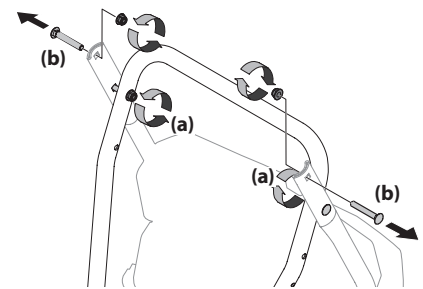
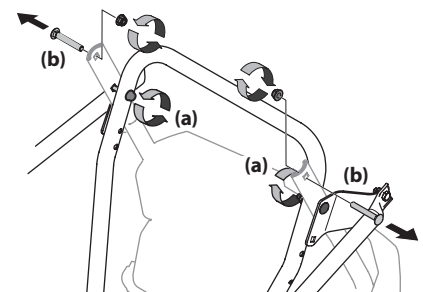

Figure 2-1
Figure 2-2
- Loosen the top two nuts (a) securing the upper and lower handle and remove the two carriage screws (b) from the upper handle and set aside as shown in Figure 2-1 or Figure 2-2 for units with side supports.